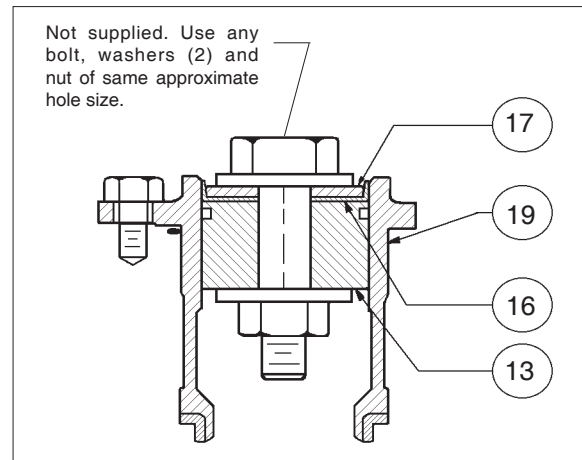

Figure 4
1. When replacing the optional wiper seal (16), the replacement wiper seal (16) is “pre-formed”. It will, however, require reforming. Reform the wiper seal (16) by pressing the temporary assembly parts into the cage (19) backwards as shown in Figure 4. The wiper seal (16) is best left in this position overnight, but a minimum of two (2) hours prior to reassembly.
2. After forming the wiper seal, remove parts (13, 16, 17) from cage (19) and disassemble the temporary assembly of Step 1. above.